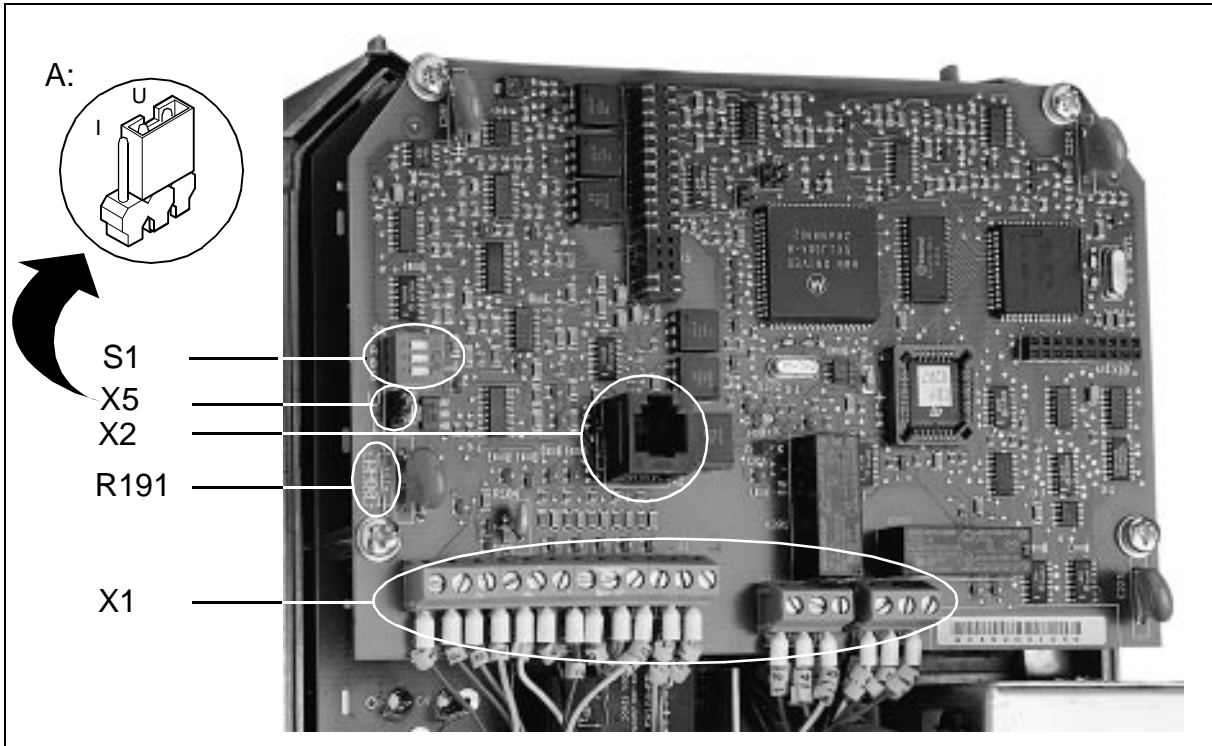

Figure 4-1 Control Card
The analogue input signal is selected with jumper X5 as shown in figure 4-1 enlargement A: *I* = current 0(4) to 20 mA and *U* = voltage 0(2) to 10 V.
1) Refer to figure 4-1 "Control Card" on page 24 for voltage/current reference selection.